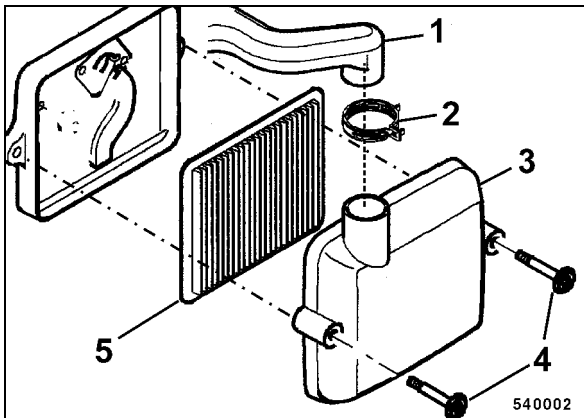

Fig. 59
- Loosen hose clamp 2 (Fig. 59) and pull the air supply hose (1) off the air filter housing.
- Unscrew two fastening screws (4) and remove cover (3) from the air filter housing.
- Pull the dry air filter cartridge (5) out of the housing.